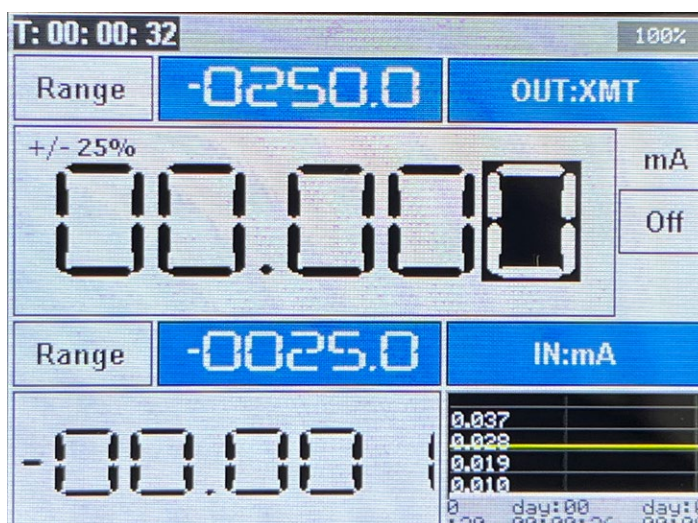

Figure 45 - Measurement and source screen with default display
1. **[IN+OUT (1)] mode:** Default, as shown in figure 45.
2. **[IN+OUT (2)] mode:** The graph showing the measured and generated values is highlighted and occupies the top portion of the screen, while the measurement and generation values are displayed in the bottom portion of the screen.
4. **[IN (1)] mode:** The signal value measured by the SLC100+ is highlighted at the top of the screen, while the graph appears at the bottom of the screen.
5. **[IN (2)] mode:** The graph showing measured and generated values is highlighted and appears at the top of the screen, while the value measured by the SLC100+ appears at the bottom.